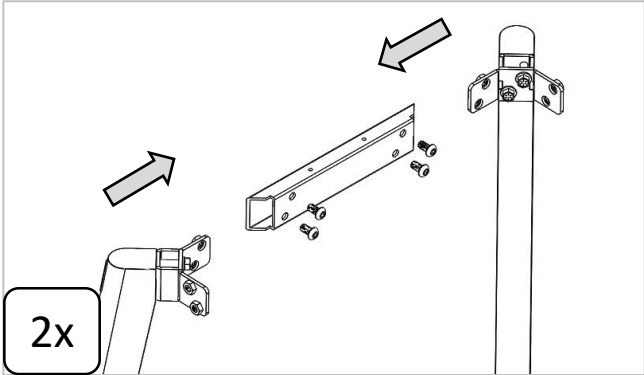

Figure 5.1
3. Attach the end assemblies from Figure 5.1 to the Tubes (width) using the 3/8-16 x 0.75 Button Head Socket Cap Screws.